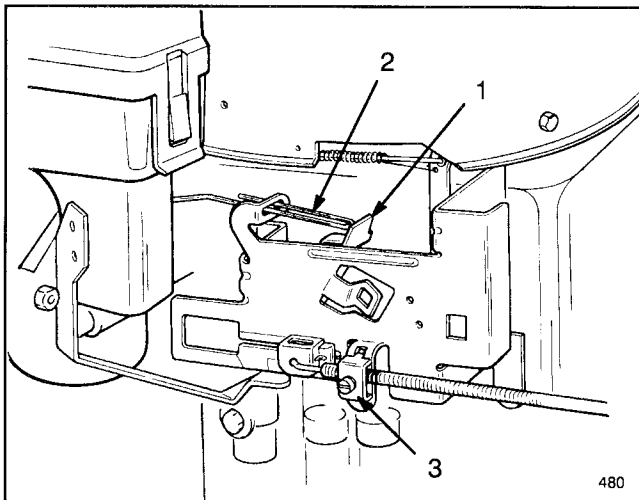

Figure 13
- 2.** The throttle lever should be just touching the choke link (Fig. 13); if they are not in this position, an adjustment is necessary:
- B.** Loosen the throttle cable clamp screw (Fig. 13) and move the control cable casing and wire until the throttle lever touches choke link.